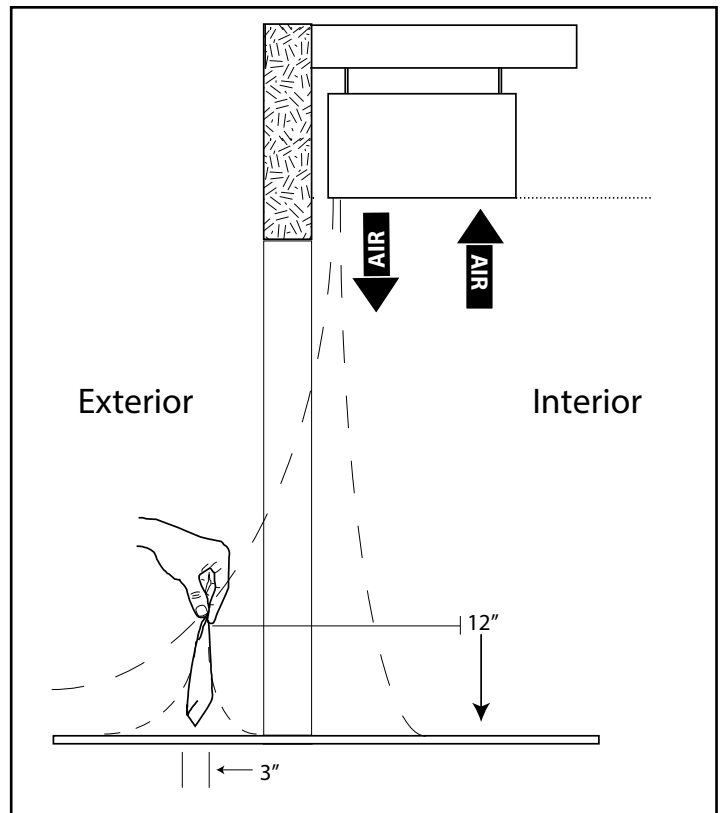

Figure 6 - Air Stream Adjustment
2. Find the air stream split location. Hold a handkerchief by its corners, approximately 12" above the floor. Gently move the handkerchief back and forth in the doorway. Make sure the air is being directed to both the inside and the outside. **See Figure 6.** The split location is indicated where the handkerchief is vertical with minimal or no fluttering.